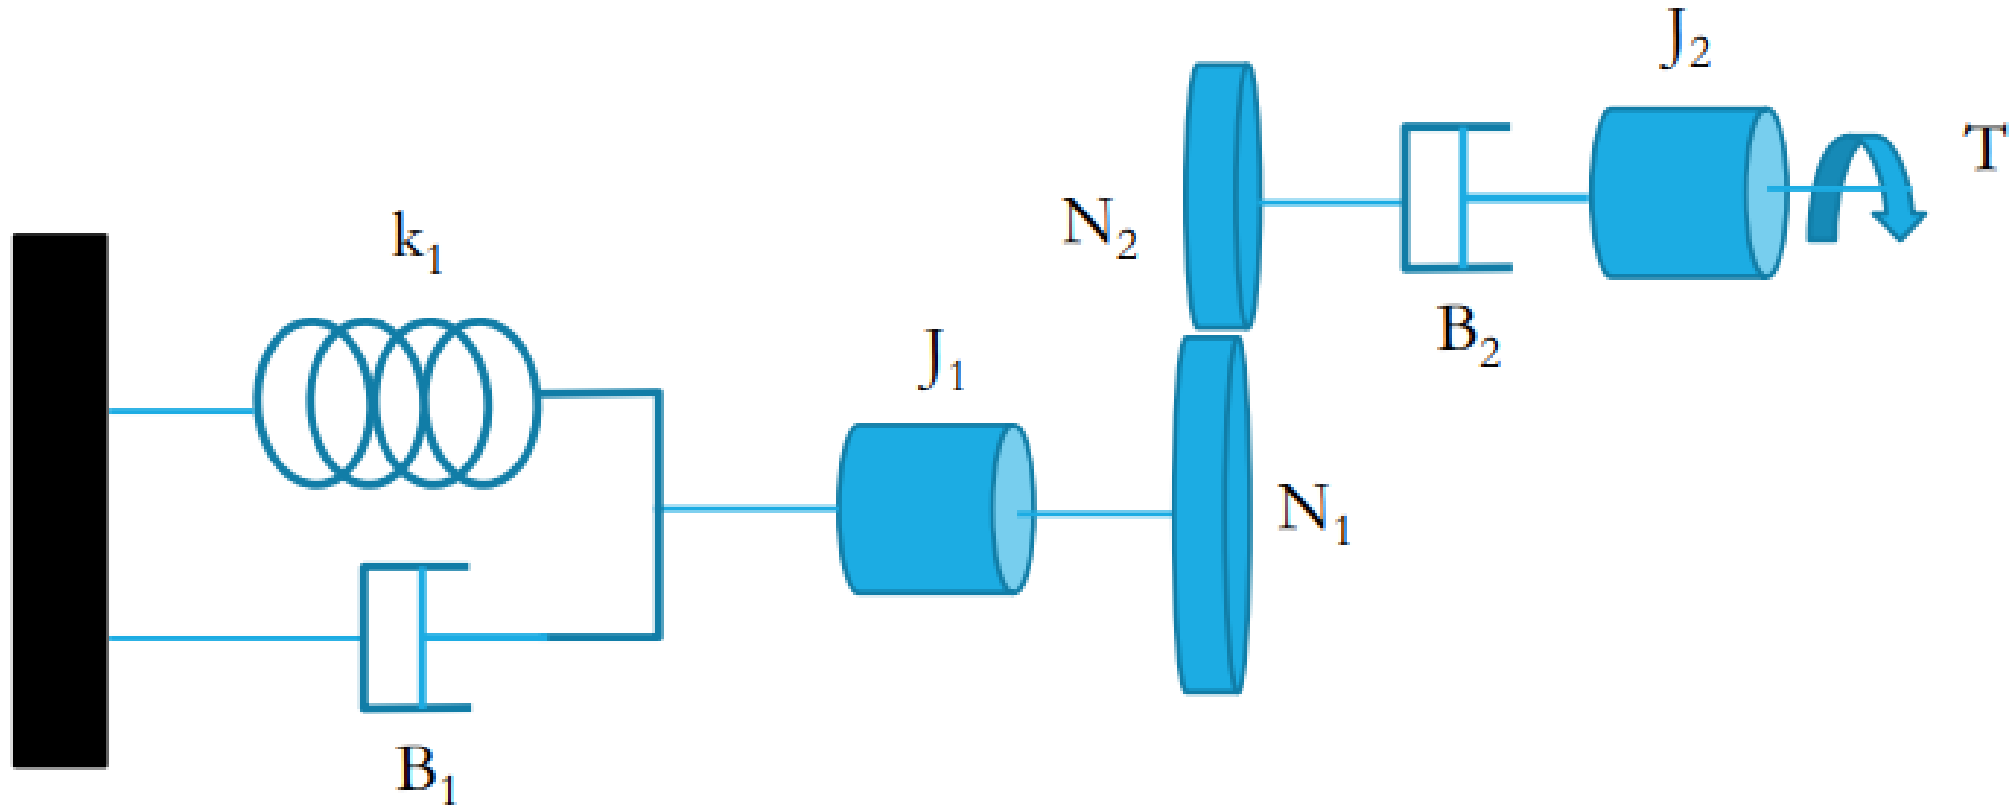

Fig 14: Rotational mechanical system linked by gear train [14]
- [15] Chalachew Werku, 2025, F-V analogous circuit of rotational mechanical system shown on fig 14., Figure, Self-created